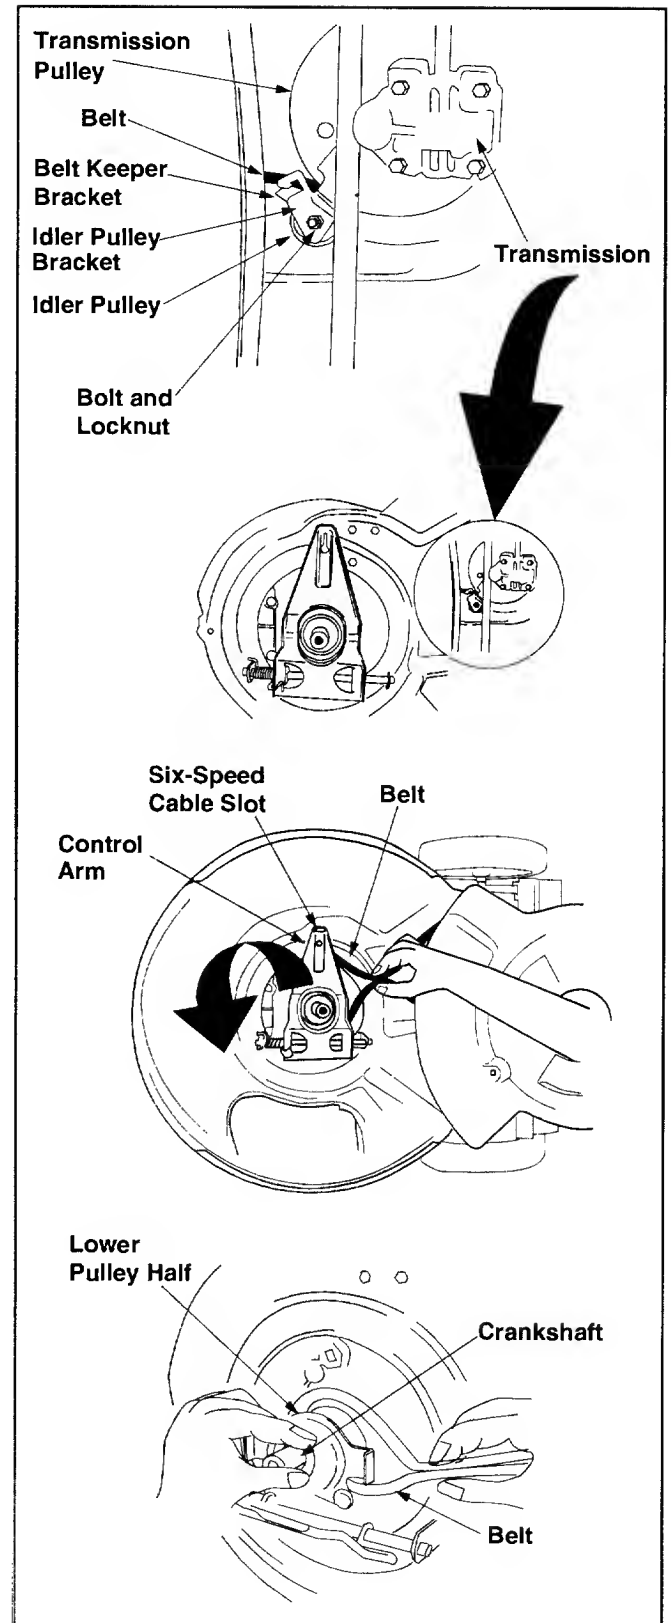

Figure 20
- Tilt the transmission forward and loosen the idler pulley bolt and lock nut half a turn. See Figure 20.
- Squeeze the belt together and push it forward, while pressing the control arm inward towards the deck and remove the six speed cable from the slot. See Figure 20.
- Lift off the lower pulley assembly and remove the old belt from around the crankshaft. See Figure 20.
- Place the new belt over the transmission pulley. Start the belt in the pulley groove and rotate the pulley until the belt is seated in the transmission pulley. Refer to Figure 20.